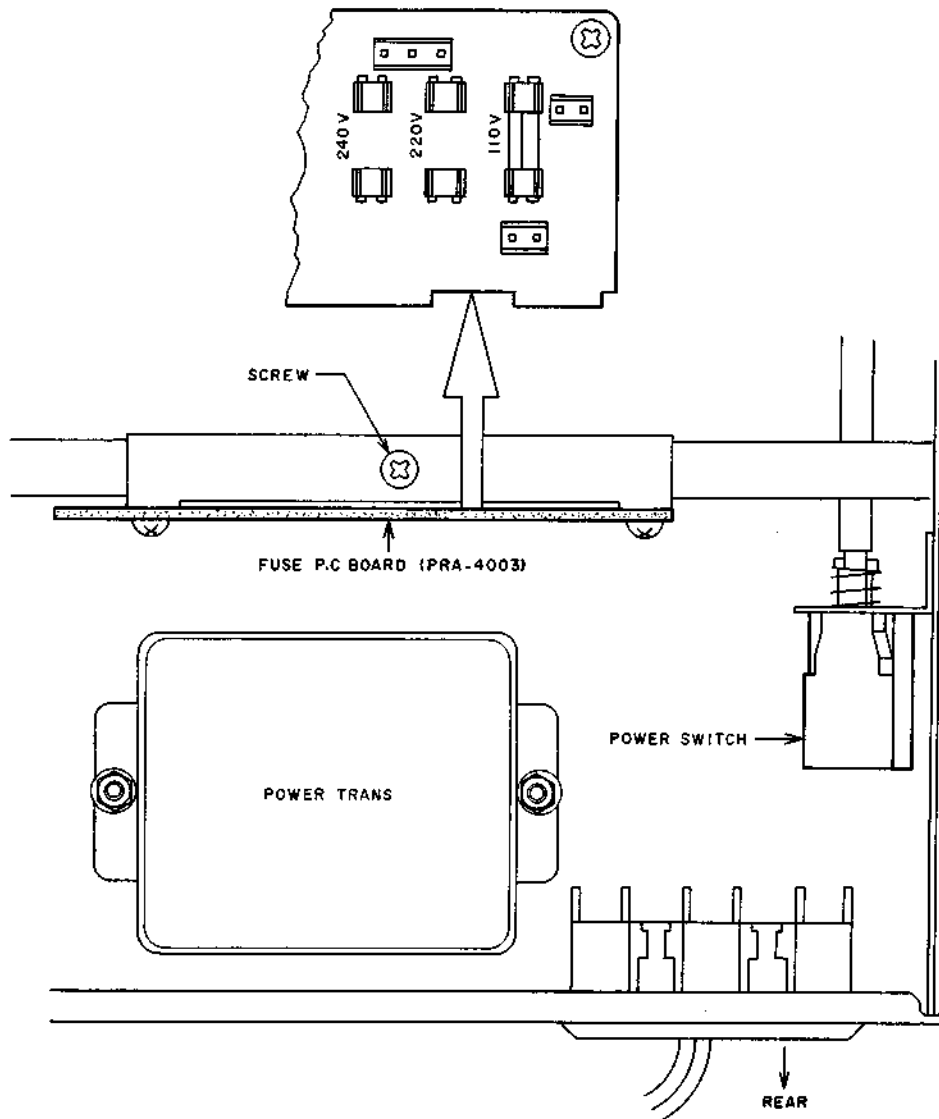

Fig. 4 Voltage Conversion (U/T Model)
1. U/T MODEL (Refer to Fig. 4)